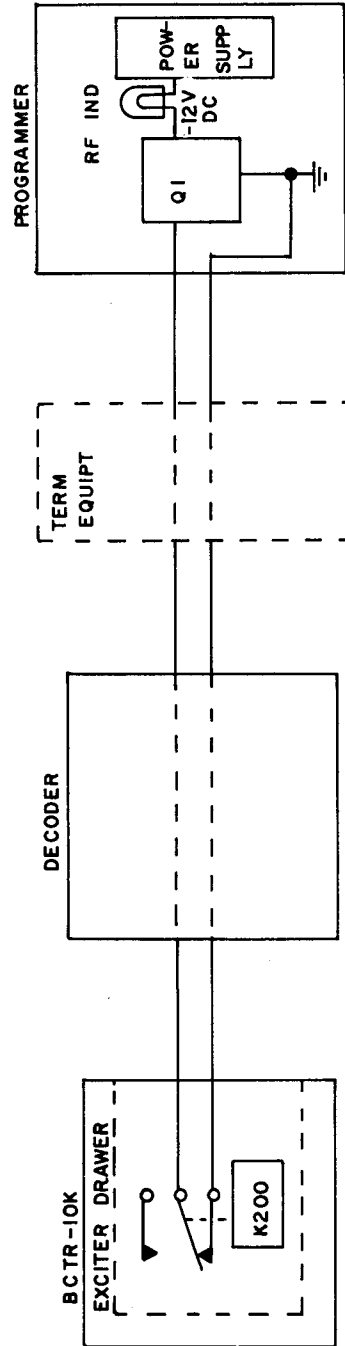

Figure 3-7 RF Output Indication
g. RF OUTPUT INDICATION - (Refer figure 3-7 ). - When the contacts of relay K200 in the BCTR-10K transmitter close, the teletype loop is closed between the RF indicator transistor Q1 in the Programmer and the contacts of relay K200.